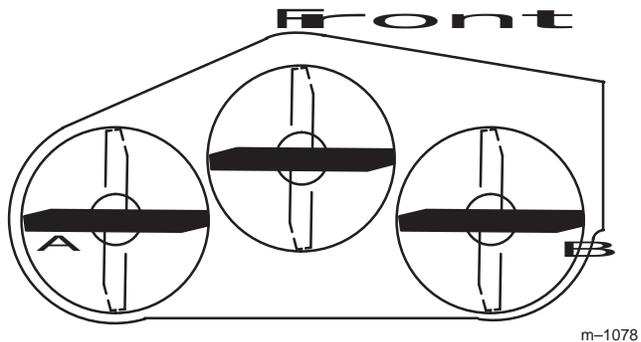
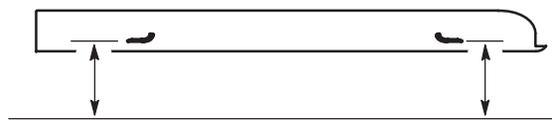

Figure 59
Figure 60
2. Position the blades side-to-side (Fig. 59). Measure at “A” and “B” locations (Fig. 59) from a level surface to the cutting edge of blade tips (Fig. 60).